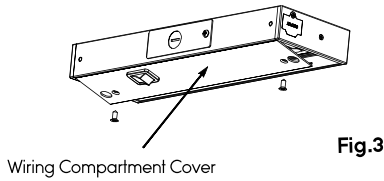

Fig.3
3. To access internal wiring remove wiring compartment cover (Fig.3). Feed wires through 3/8" wire connector (supplied) and install connector to rear access door. Wire cable to push in connectors. Secure rear access door to fixture (Fig.4)